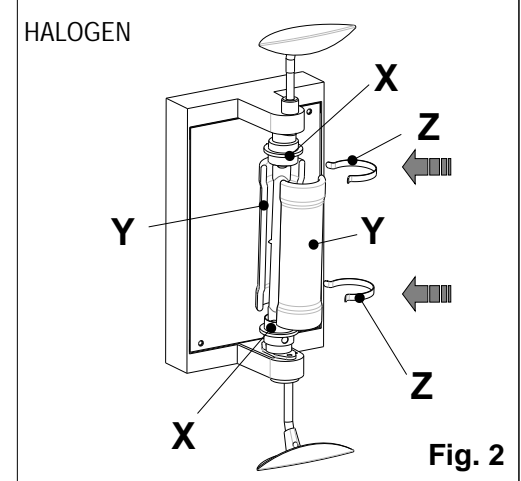

Fig. 2
- .6. Install lamp(s). **For halogen lamp** : Insert bulb inside double ended socket, then place the two half safety glass pyrex tubes “Y” in order to be coupled inside the opposite collars of rings “X” as shown. Clamp the two parts by pushing the two release springs “Z” as shown in **Fig.2.**